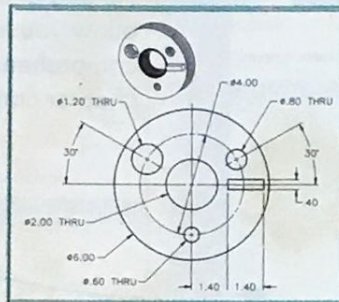

Fig. 6-14
6. Draw the front view of the locking end cap shown in Fig. 6-14. Start the drawing at the center of the object using absolute coordinates of 5,5. Use absolute coordinates to locate the centers of the four holes, and use polar tracking with the RECTANG command to draw the rectangular piece.